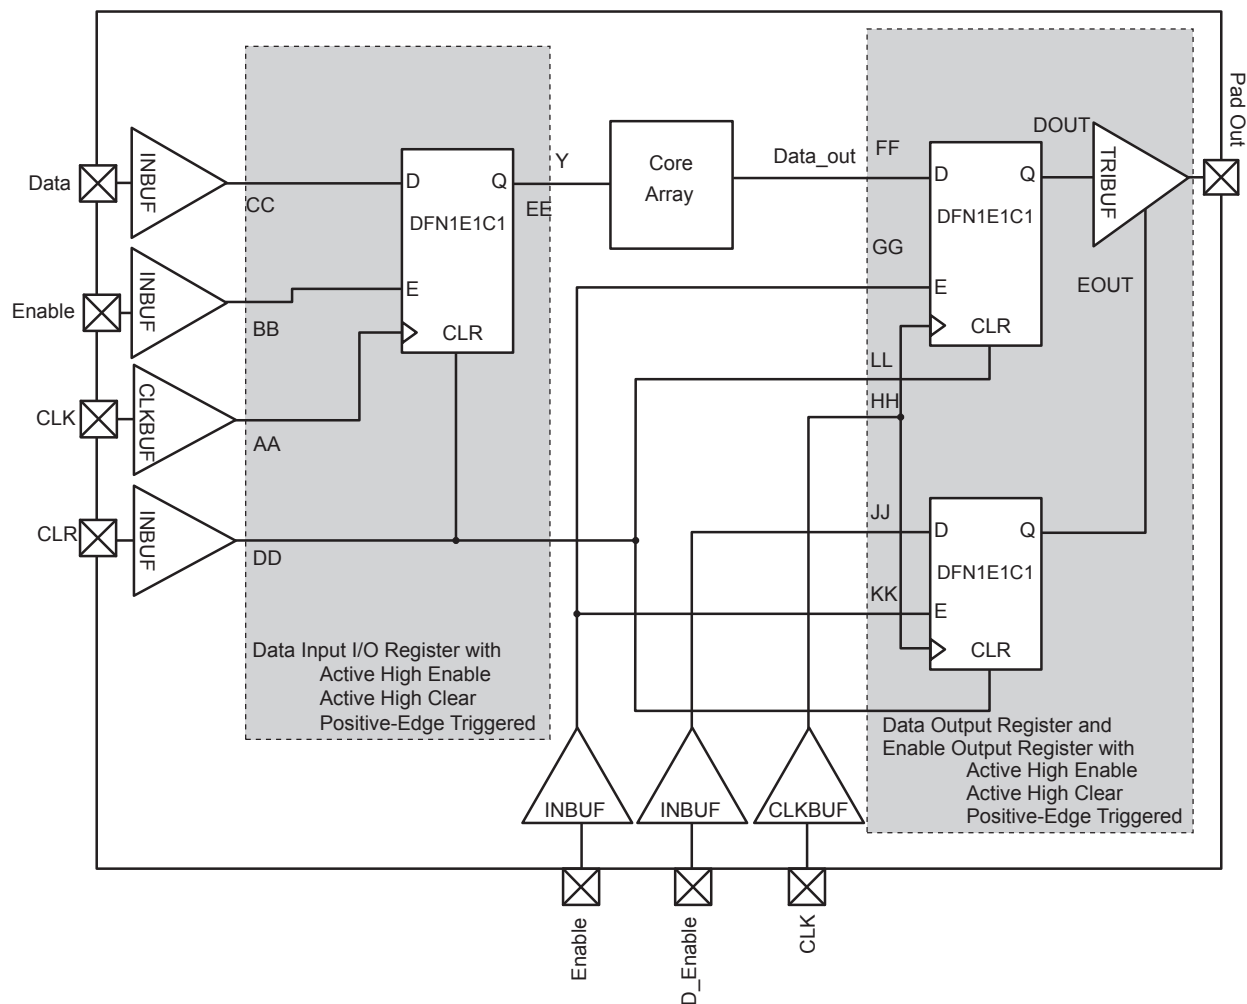

**Figure 2-27 • Timing Model of the Registered I/O Buffers with Synchronous Enable and Asynchronous Clear**
*Note:* \*See Figure 2-27 on page 2-68 for more information.